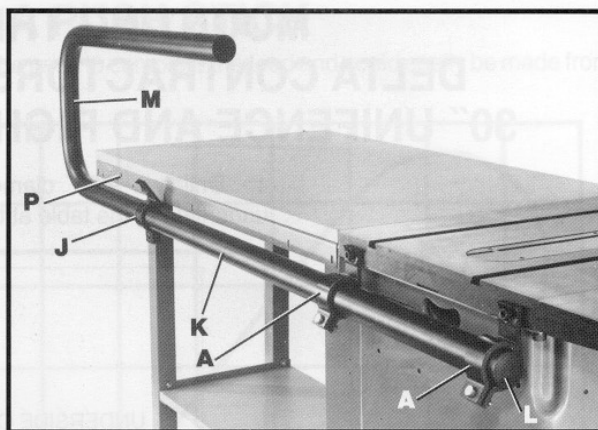
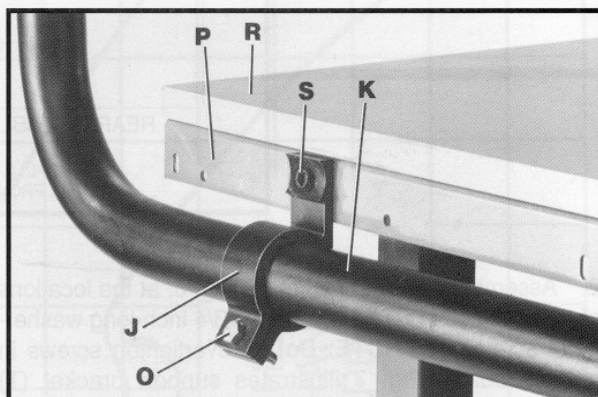
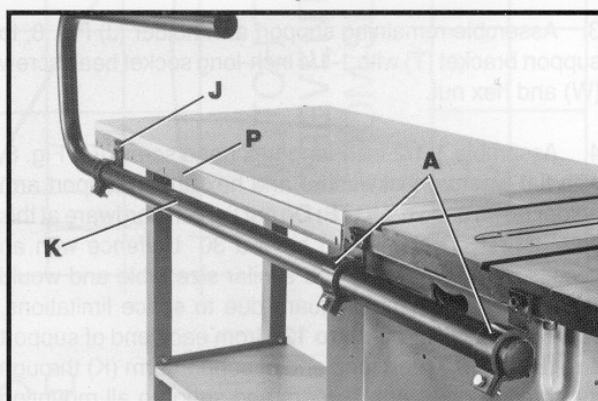

Fig. 10
Fig. 11
Fig. 12
1. Assemble the remaining support arm holder (J) Fig. 10, to the support arm (K) and insert support arm into the two support arm holders (A). **NOTE:** End of support arm (L) should extend at least 1/2" beyond right support; however, this dimension can vary depending on the capacity you desire on the right side of the blade. Snug up all mounting hardware on support arm holders (A) at this time.
2. Drill a 7/16" diameter hole approximately 4" from the end of the rear table support bar (P) Fig. 10. **IMPORTANT:** Before drilling the hole, make certain the horizontal part of the support arm (K) Fig. 11, is parallel to the table surface (R). Fasten support arm holder (J) Fig. 11, to rear table support bar (P) with 1-1/4" long socket head screw (S) and hex nut.
3. Assemble 1-1/2" long socket head screw (O) Fig. 11, with flat washer, lockwasher and hex nut to support arm holder (J). Fig. 12, illustrates the support arm (K) fastened to the rear of the saw table and table support bar (P) with three support arm holders (J) and (A).
A leg made out of wood (similar to a 2 x 4) should be fastened to the support arm holder (J) Fig. 11. This will supply added support for the Unifence arm.